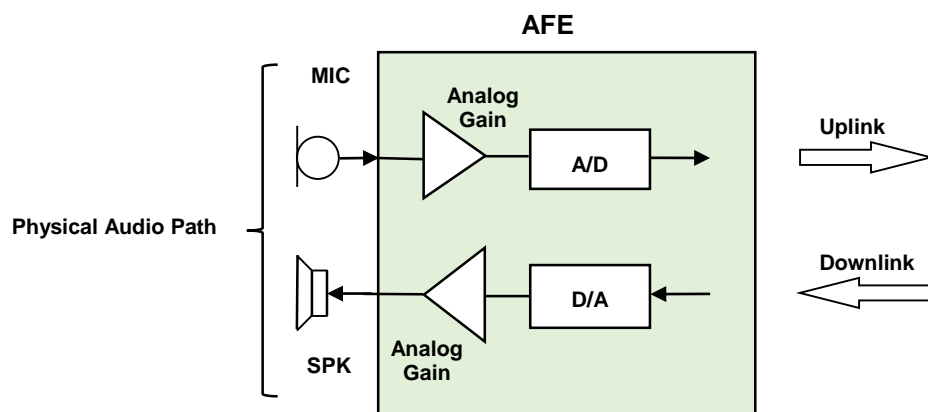

Fig. 2: AFE Block Diagram
- 1) The commands above work only on AFE block (refer to Fig. 2). DVI block is not affected.